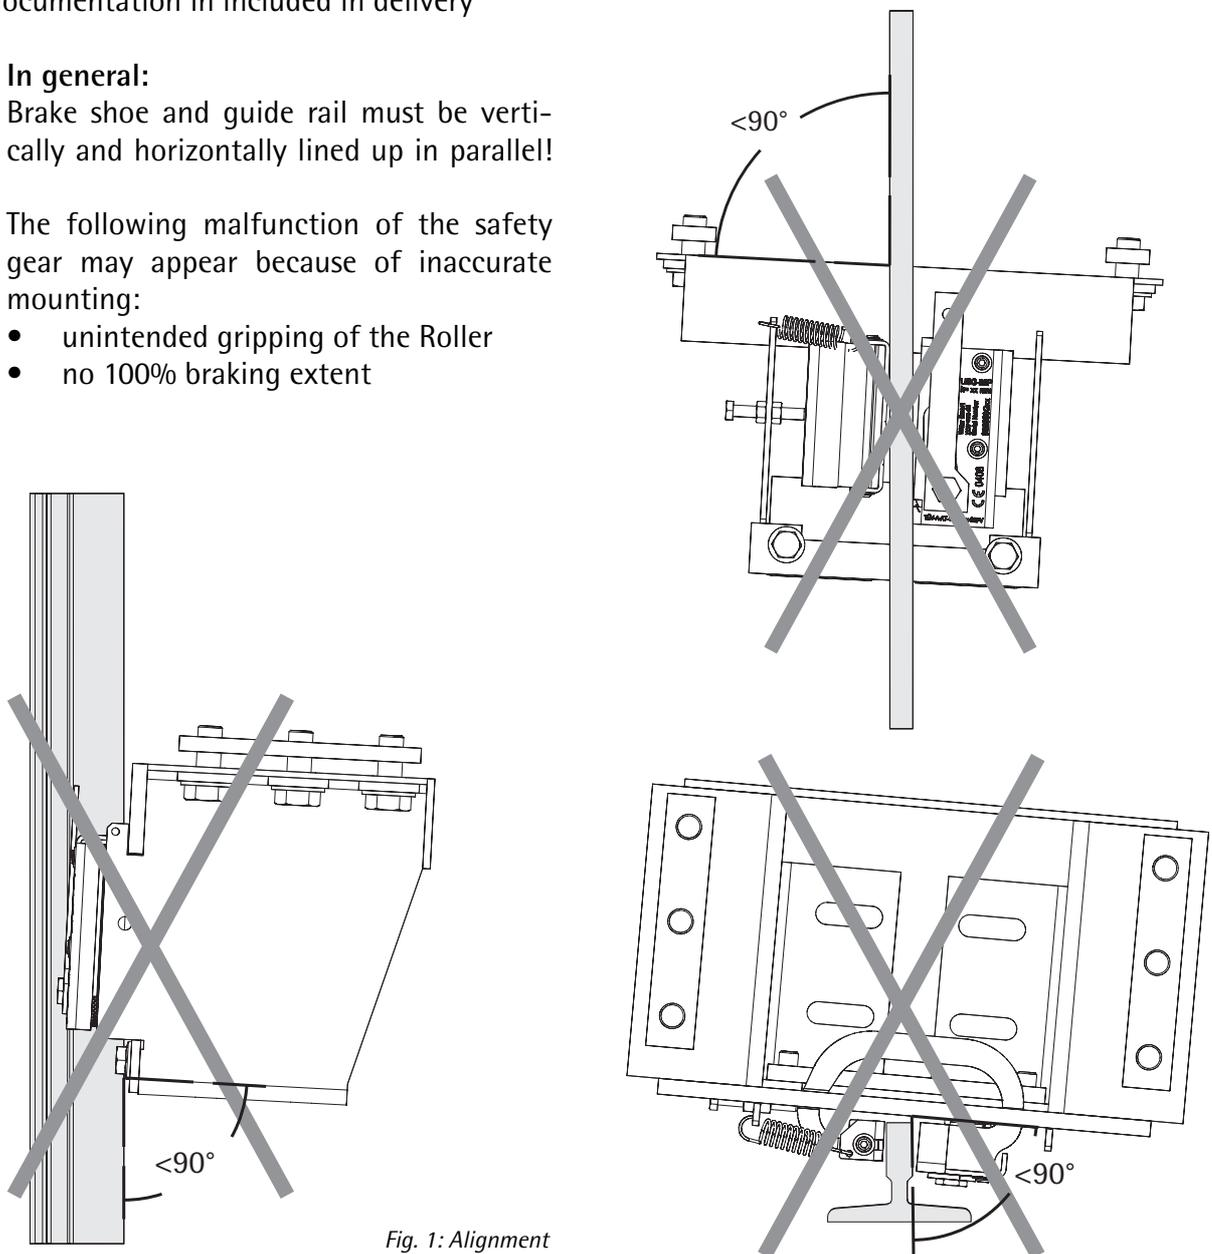

Fig. 1: Alignment
- Safety gear with housing (see Fig.1)